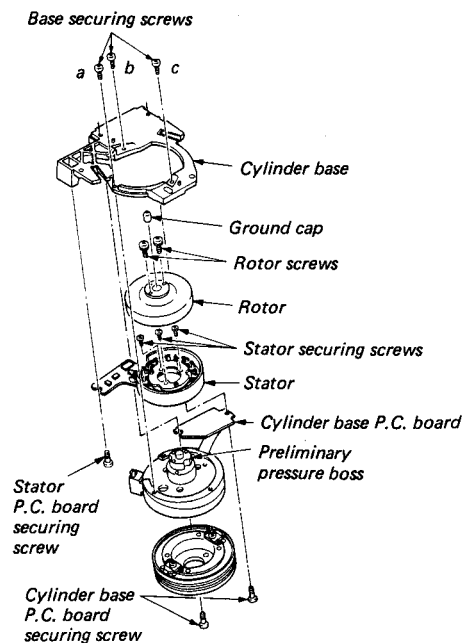

Fig. 1-3-14 Cylinder motor replacement
Mount a new rotor, matching the phase decision holes of rotor and preliminary pressure boss. (Fig. 1-3-14, 15)
3. Remove three base securing screws and remove the cylinder base. (Fig. 1-3-14)
4. Remove the rotor screws and the rotor. (Fig. 1-3-14)
Sequence of tightening base securing screws: tighten the screw a first, b and c in any order. (Tightening torque is 3 - 4 kg-cm.) (Fig. 1-3-14)